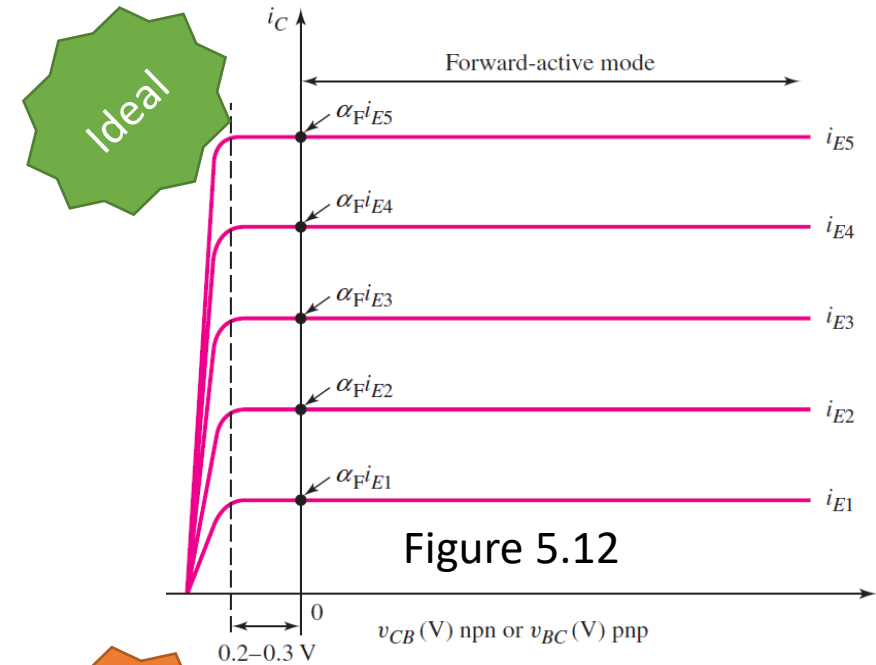

Figure 5.12
- The common-base current-voltage characteristics shown in Figure 5.12 are ideal in that breakdown is not shown.